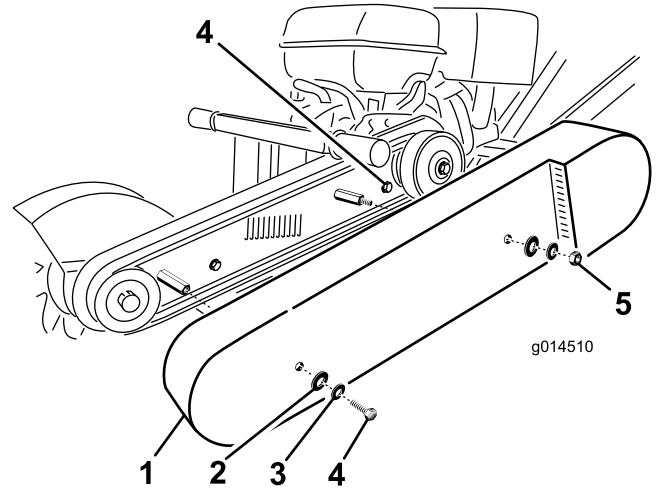

Figure 19
2. Remove belt guard retaining screws (Figure 19).